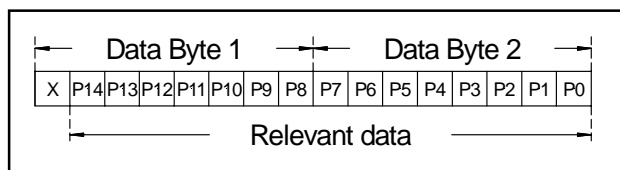
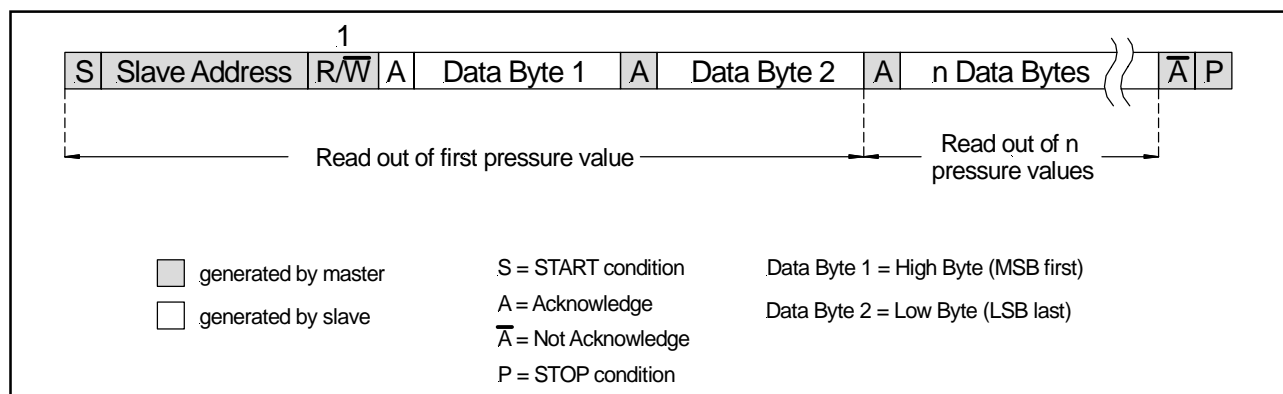

Fig. 10: Two data bytes containing the pressure value as a 15 bit information
Fig. 9: Readout of digital pressure information using I²C bus protocol
To read out a pressure value the master generates a START condition and sends the sensors slave address (either the hard coded address 0x1111000bin or the secondary factory programmed address) followed by a READ command ($R/\overline{W}=1$) (see Fig. 9). At the moment of the first acknowledge (A) from the sensor, the master-transmitter becomes a master-receiver. The sensor starts to send two data bytes containing the current pressure value as a 15 bit information placed in the output registers of its ASIC (see Fig. 10). The master must acknowledge the reception of the first data byte. To terminate the pressure reading from the sensor the master sends a STOP condition. The sensor is also able to send pressure values "online". That means if the master does not send a STOP condition but an acknowledge after the third exchanged byte the sensor-slave will go on sending the last available pressure value when it is clocked.